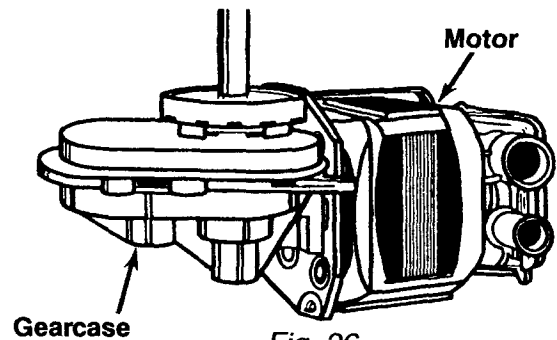

Fig. 26
2. Once there is power to the timer motor, the timer will start to advance. You can hear the sound of the drive motor running. The motor is coupled directly to the gearcase (Fig. 26) and will turn in the agitate direction. The direction of current through the start winding determines the direction of motor rotation. When contacts 7 are closed, the motor turns counterclockwise.